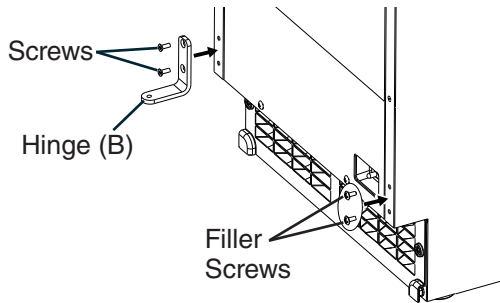

Fig. 13
- d) Remove hinge (B) from the right side of the appliance and the 2 filler screws from the left side. Attach the 2 filler screws to the right side and attach hinge (B) to the left side. See Fig. 13.